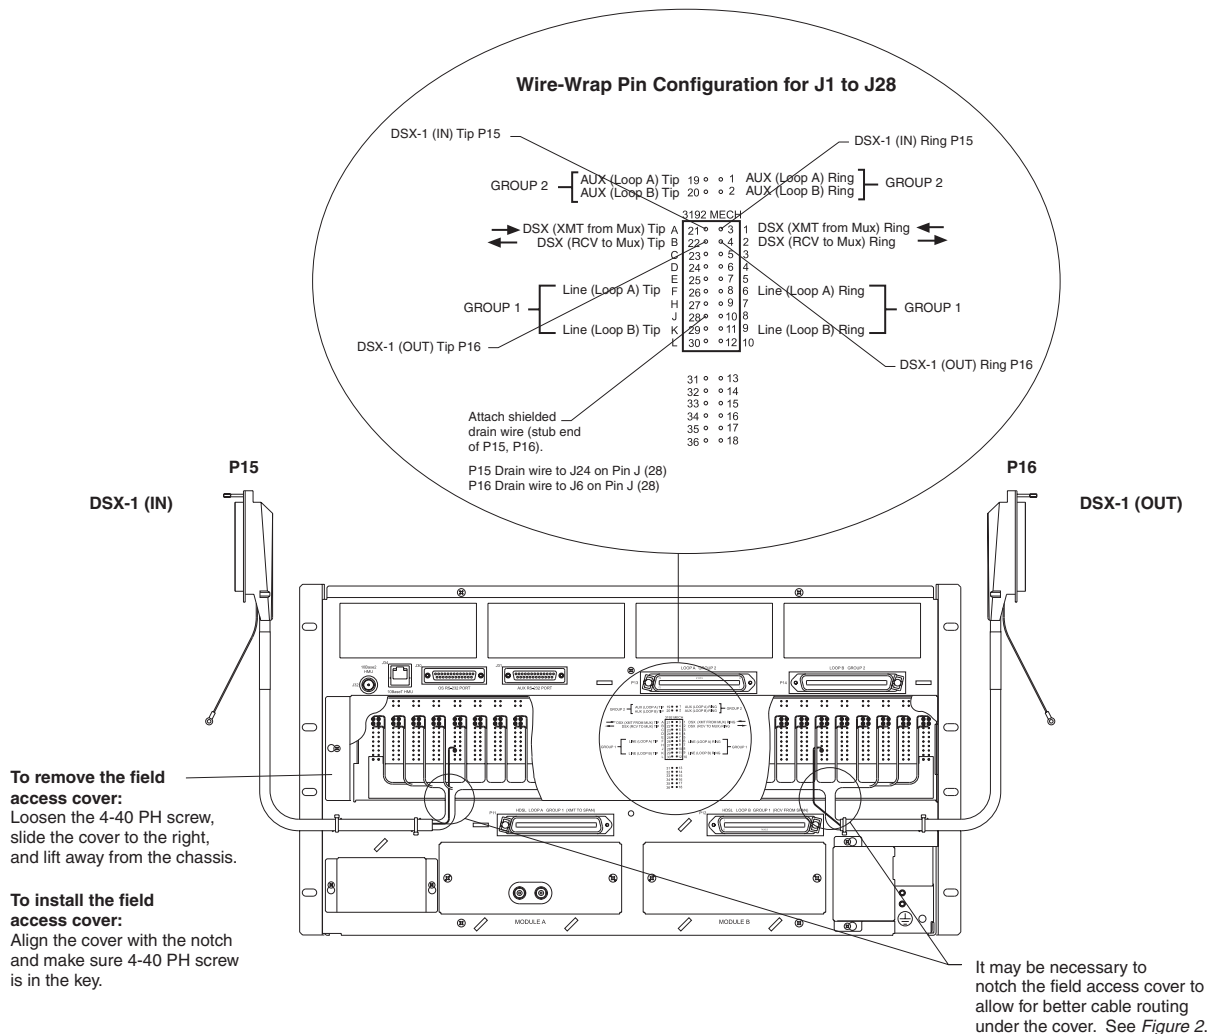

Figure 1. Wire-wrapping the HMS-358 List 1 and List 2 Chassis
This addendum is an update to the HMS-358 List 1 and List 2 Installation and Verification Guide (LTPH-SM-1014-01). It is a guideline for updating the HMS-358 List 1 and List 2 chassis to support non-multiplexer applications. The wire-wrapping option shown in Figure 1 is for use with four-wire 3192 line units in Central Office (CO) systems that are not supporting an internal multiplexer function.
Group 1 (Port 1) connections typically provide a four-wire connection to the field and can be made through P11 (TX) and P12 (RX) or through wire-wrap connections under the field access cover (Figure 1). Group 2 (Port 2) connections can only be accessed through four wire-wrap posts under the field access cover.
To provide better cable routing, notch the field access cover as shown in Figure 1 on page 1 and in Figure 2 below.